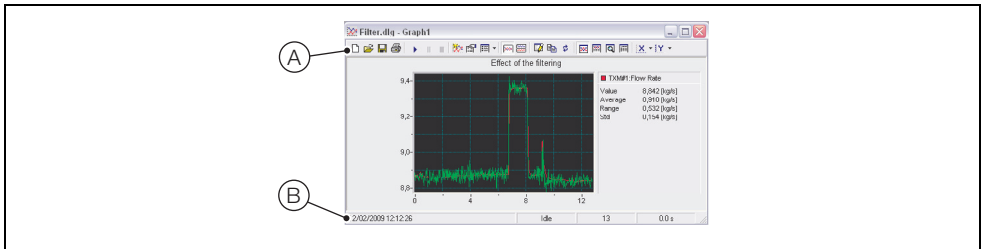

Fig. 7.1 Graph View
Referring to Fig. 7.1, toolbar **A** controls all the Graph functions. Hold the mouse cursor over any button to display help text explaining the button's function.
Edit Graph Note	Enables the user to enter a note as a reminder or explanation of the data. The note is displayed in the status bar – see (B) in Fig. 7.1.